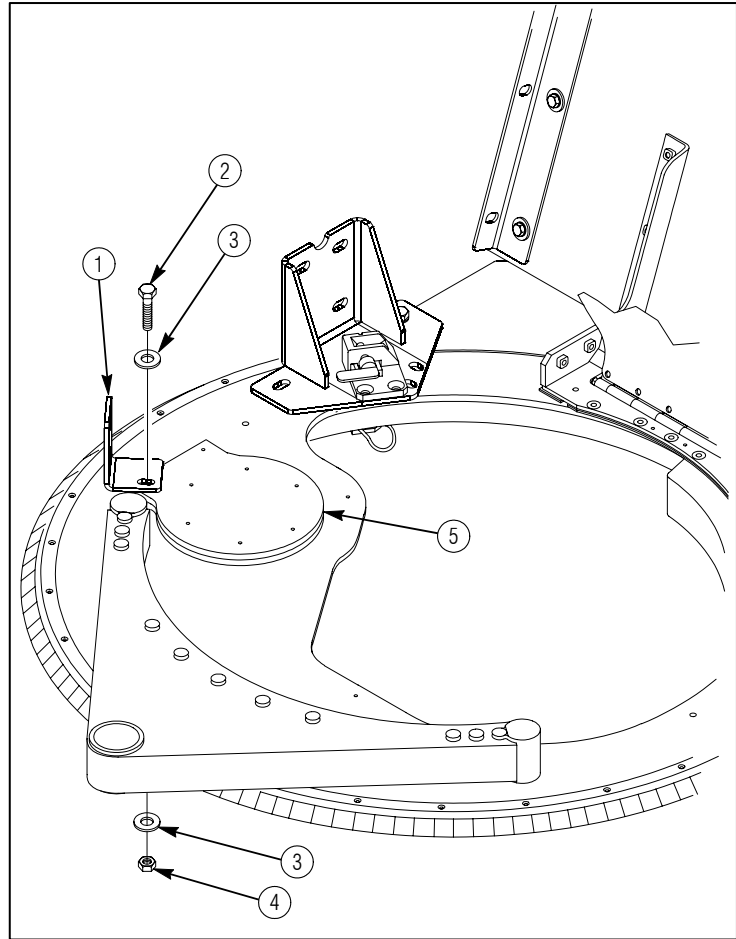

Figure 10
8. Remove hex bolt from top of TOW cover as shown in figure 10.
9. Attach 13014389 right front bracket (1) to top of TOW cover (5) using one B1821BH038C350N hex bolt (2), two MS27183-14 washers (3) and MS51943-35 locknut (4) as shown in figure 10. Do not tighten hex bolts at this time